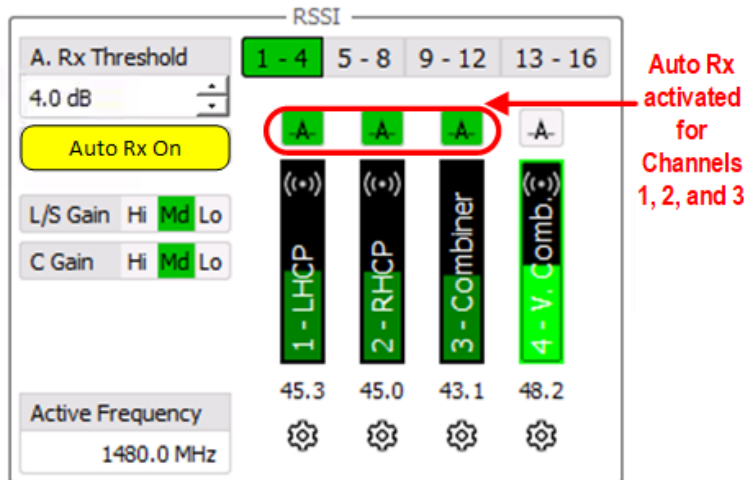

Figure 99: Main Screen, RSSI—Activated Auto Rx Channels
The Auto Rx feature is activated by the button above each receiver signal level display (4). The button enables the Auto Rx for the channel below the button. The button illuminates green when enabled. In Figure, the buttons above channels 1, 2, and 3 are selected and illuminate green. Those channels automatically switch to the receiver channel with the highest displayed signal level. The auto receiver Auto Rx Off button must be enabled and illuminate yellow for auto channel switching to take place. An example is shown in Figure 99.